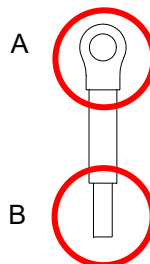

Figure 8-8
- You must ground the option cards listed below before wiring. The ground terminal is included with option cards as shown in Figure 8-8.